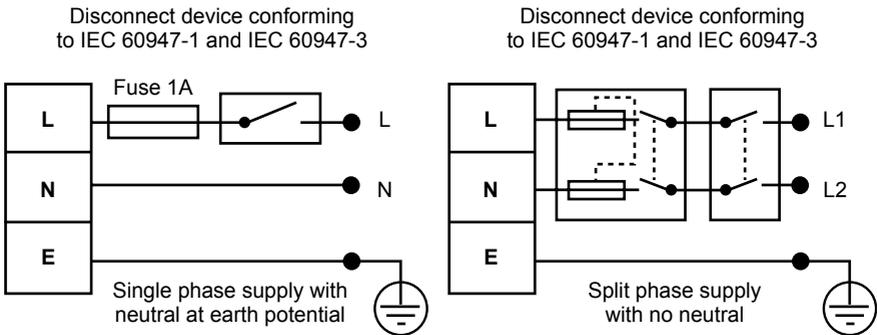

Fig. 8
5. It is important that the polarity of the sensor wiring is correct as shown in Figure 8, (PL5 on the R16C is connected to the red wire of the sensor and the PL4 on the R16C is connected to the sensors blue wire). If this wiring is reversed the unit will appear to operate but will give confusing results.
The connection to the mains is as shown in Figure 8.